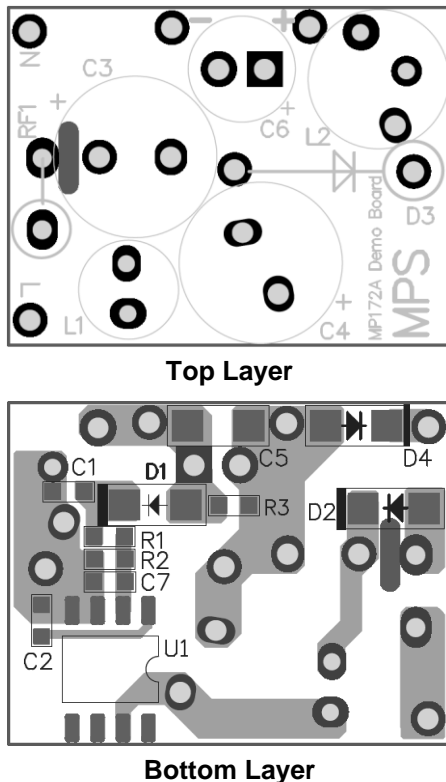

Figure 9: Recommended PCB Layout
PCB layout is vital for stable operation, good EMI, and improved thermal performance. For the best results, refer to Figure 9 and follow the guidelines below:
3. Minimize the loop area to the inductor (see Figure 9).